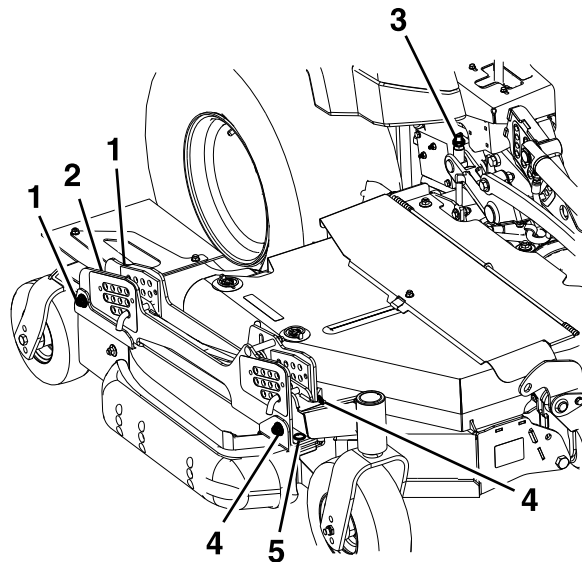

Figure 64
(items 1 and 4) as shown in Figure 64. There are four locations — two on each side of the channel.
- If the deck is too low, tighten the front height adjustment bolt (item 5, Figure 64) by rotating the bottom nut clockwise.
- If the deck is too high, loosen the front height adjustment bolt (item 5, Figure 64) by rotating the bottom nut counterclockwise. Fine tuned the rear adjusters as required.
4. Measure the back of the wing blades. If either has less than 1/16 inch (1.5 mm) rake, raise the back of the deck by tightening the LH and RH rear adjustments (item 2, Figure 64) until all four blades have a minimum of 1/16 inch rake (1.5 mm). Readjust the wing rear wheels so they lightly touch the ground with minimal pressure. Tighten all four rear hanger mount points (item 1, Figure 64).